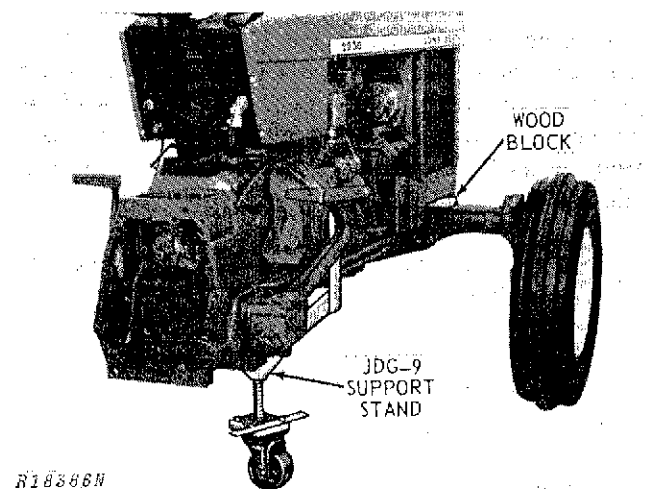

Fig. 6-Clutch Housing Separated From Transmission
**CAUTION: Install a wood block between front axle and front support on both sides of tractor to prevent assembly from tipping (Fig. 6).**